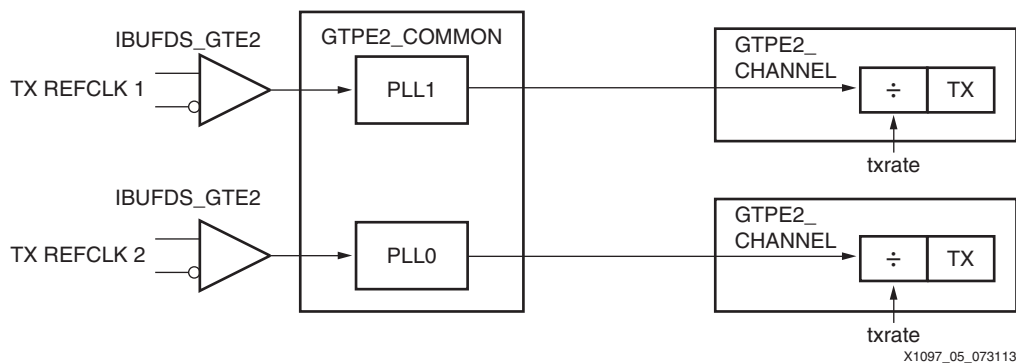

Figure 5: Two Independent TX in a GTP Quad
- Two transmitters and no receivers active in the Quad with each transmitter using a serial clock from a different PLL (Figure 5).